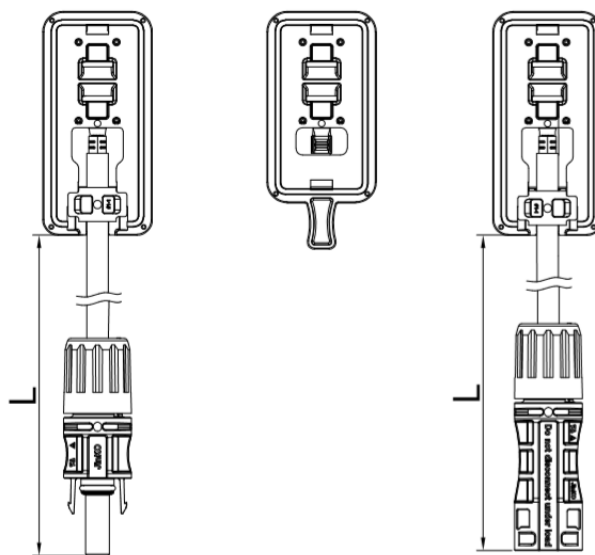

Fig. 13 The half-cut cell module/ split junction box
- l) The length of the junction box shall be determined according to the component specifications and the customer's design proposal. As shown in Figure 13 below, consider the length of the lead wire before designing the wiring;